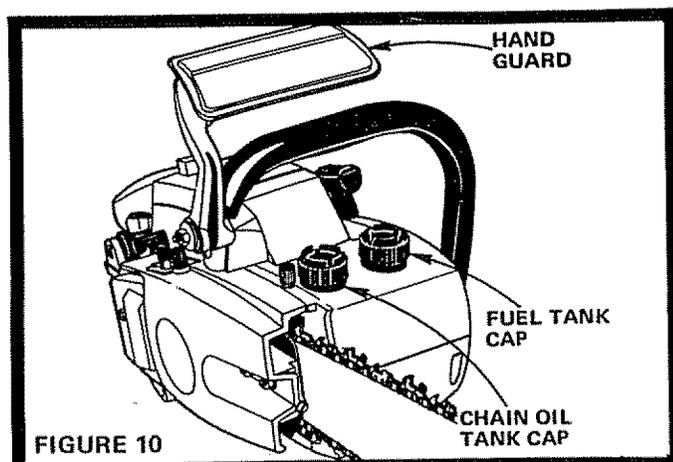

FIGURE 10
1. Push Hand Guard to the rear for easier filling of Fuel and Oil Tanks (Fig. 10).
2. Fill Chain Oil Tank (Fig. 10) with Sears Bar and Chain Lubricant—suitable for use in any temperature. You may also use any good multi-grade automotive type oil. If used in temperatures below 0°F, thin oil with a small amount of kerosene (approximately 6 ounces per quart of oil). Tighten Cap securely. NOTE: THIS TANK IS FOR BAR AND CHAIN LUBRICATION ONLY.
2. Fill Fuel Tank (Fig. 10). NOTE: DO NOT OVERFILL. ALLOW 3/4 INCH FOR EXPANSION. Tighten Cap securely.